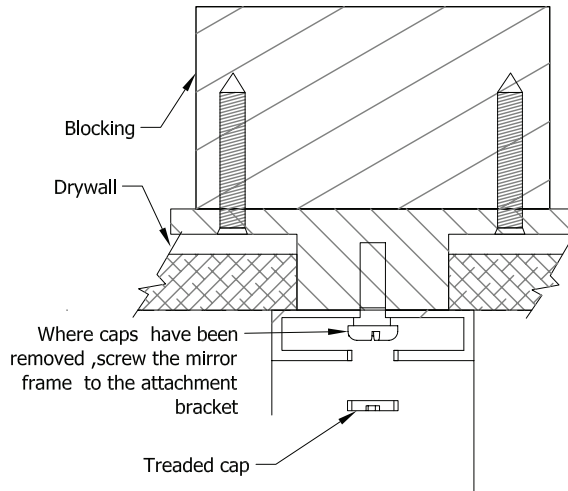

Fig. 7
5. There are three threaded caps on the underside of the top of the mirror frame. Unscrew these caps in order to access the screw holes meant for attaching the frame to the attachment bracket. DO NOT LOSE THESE CAPS (Fig.7).